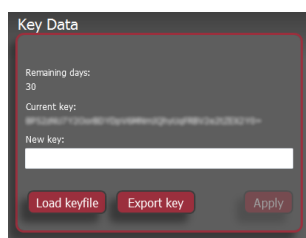

Figure 4-21 Key fill-in window part
5. Press the **Load key file** button under **Key Data** in the right top part of the window, see Figure 4-21